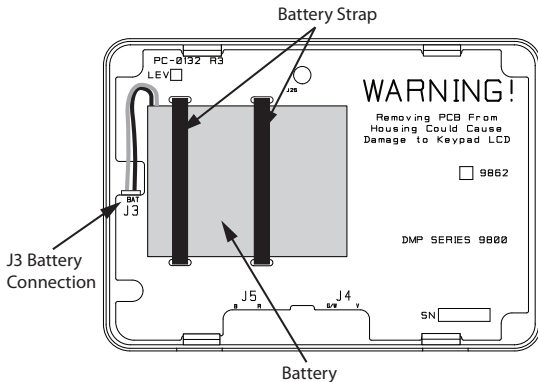

Figure 7
4. Place the new battery (DMP Model 9800BAT) on the keypad PCB and replace the battery straps. See Figure 7.